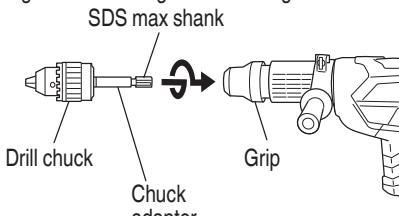

Fig. 16
## (2) Attaching chuck adaptor to drill chuck (Fig. 16)